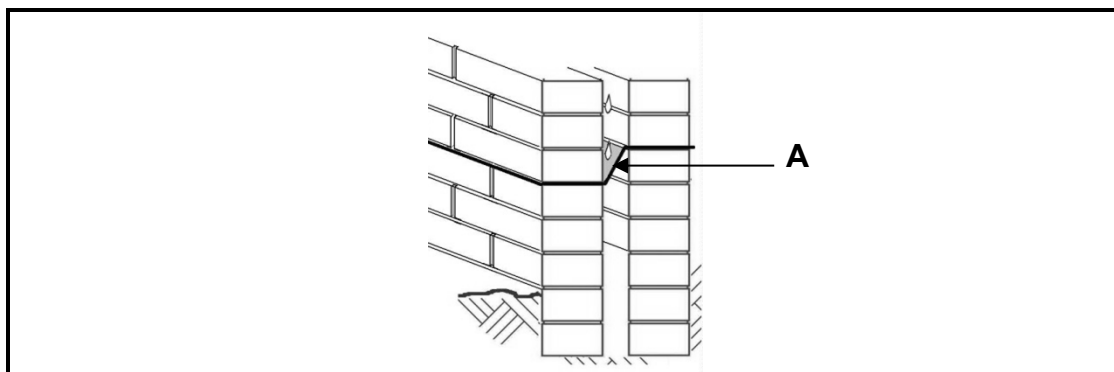

FIGURE 5.1
5.1 Answer the following questions with regard to the wall in FIGURE 5.1.